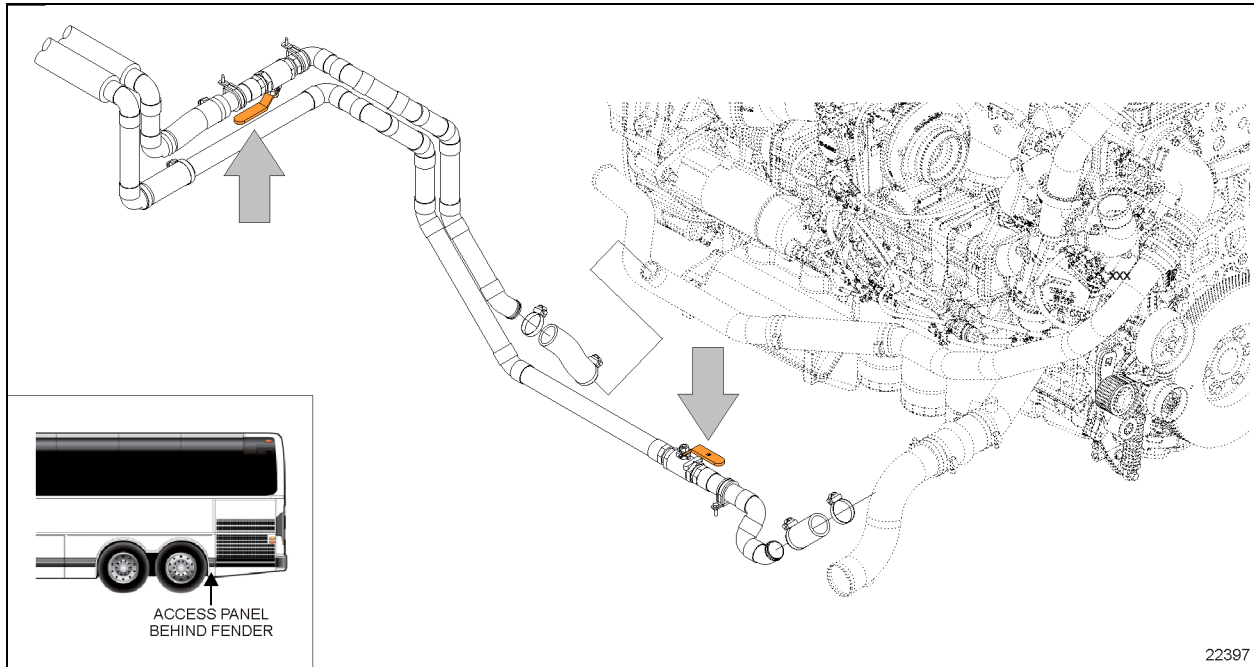
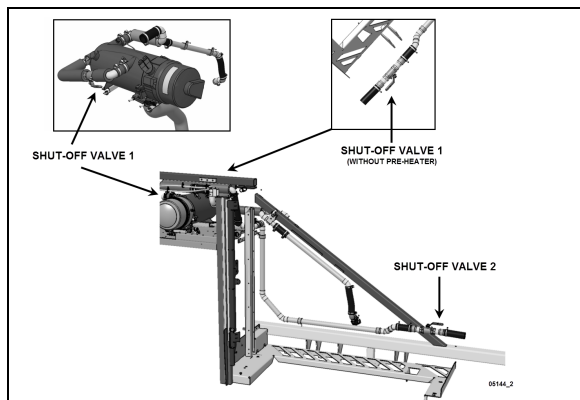

FIGURE 77 X SERIES HEATER LINE SHUT-OFF VALVES- (ALLISON TRANS. PIPING ARRANGEMENT SHOWN)
FIGURE 78: H3 SERIES HEATER LINE SHUTOFF VALVES
3. Close the hot water lines shutoff valves located next the engine on street side (see Figure 77 or Figure 78).
2. Close both heater line shutoff valves (Figure 77 or Figure 78). One is located in the engine compartment, lower road side, near the radiator while the other one is located behind the L.H. hinged rear fender near the preheater.